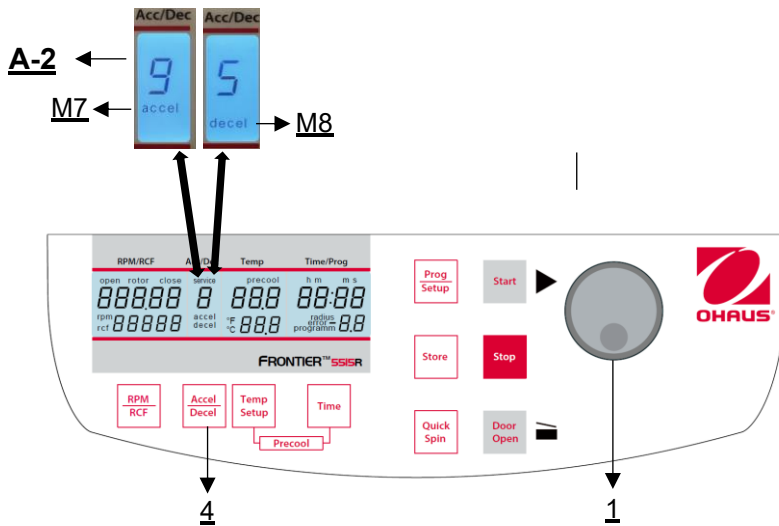

Figure 17
This function is activated through the key "Accel/Decel" (4) (see Figure 17).